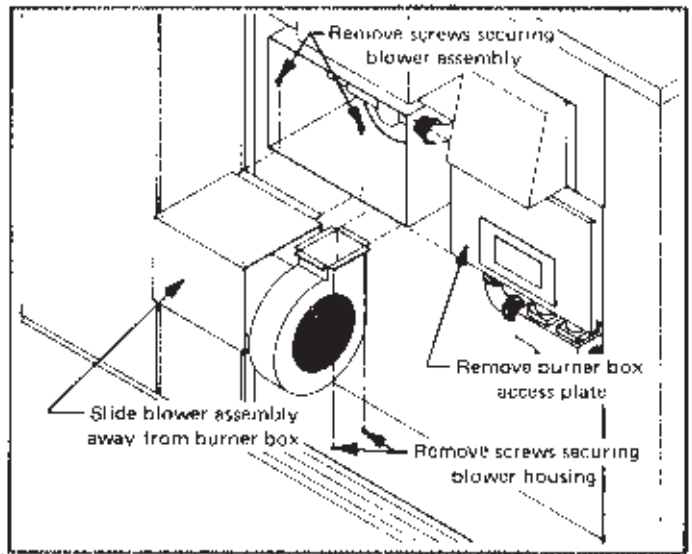

FIGURE 16
- 2 - Remove (2) screws securing combustion air blower motor assembly. See Figure 16.